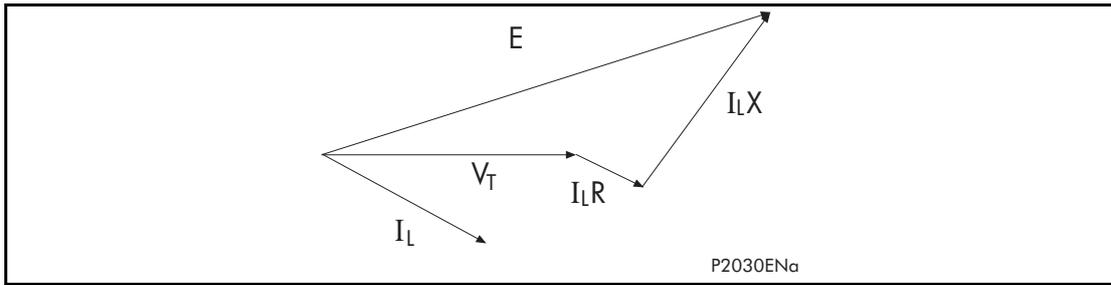
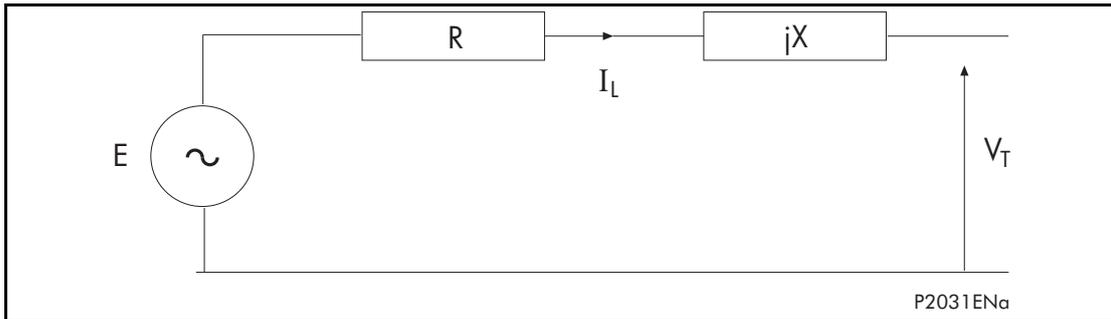
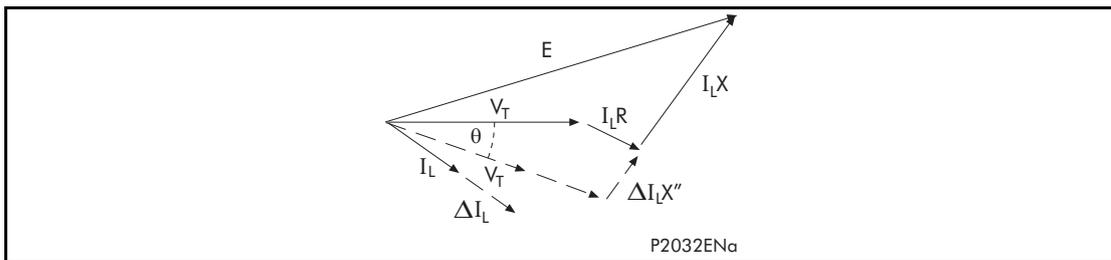

Figure 5: Vector diagram representing steady state condition
Figure 6: Single phase line diagram showing generator parameters
Figure 7: Transient voltage vector change θ due to change in load current ΔI_L
To understand the relation between the resulting voltage vector angle change following a disturbance and the embedded generator characteristics a simplified single phase equivalent circuit of a synchronous generator or induction generator is shown in Figure 5, Figure 6 and Figure 7. The voltage V_T is the symmetrical terminal voltage of the generator and the voltage E is the internal voltage lying behind the machine impedance which is largely reactive (X). When a disturbance causes a change in current the terminal voltage will jump with respect to its steady state position. The resultant voltage vector is dependent on the rate of change in current, and the subtransient impedance of the machine, which is the impedance the generator presents to a sudden load change. In turn the current change depends on how strong the source is (short circuit capacity) and the voltage regulation at the generator terminal which is also affected by the reactive power load connected to the machine.